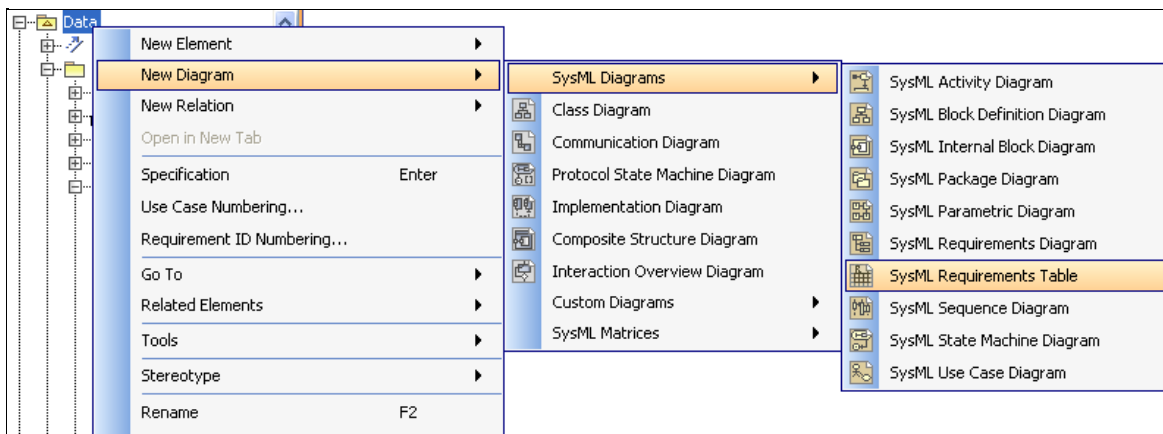

Figure 164 -- Creating SysML Requirements Table Using Containment Tree
2. Click **New Diagram > SysML Diagrams > SysML Requirements Table** (Figure 164).